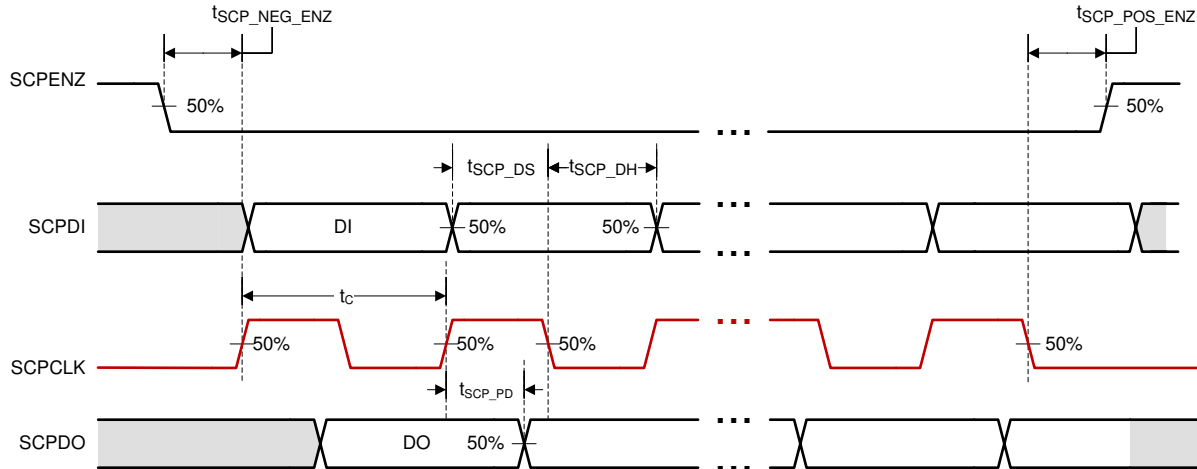

图 6-2. SCP Timing Requirements
- (5) Low-speed interface is LPSDR and adheres to the Electrical Characteristics and AC/DC Operating Conditions table in JEDEC Standard No. 209B, "Low-Power Double Data Rate (LPDDR)" JESD209B. Tester conditions for V_{IH} and V_{IL} .
- (6) PWRDNZ input pin resets the SCP and disables the LVDS receivers. PWRDNZ input pin overrides SCPENZ input pin and tristates the SCPDO output pin.
- (7) The SCP clock is a gated clock. Duty cycle must be 50% \pm 10%. SCP parameter is related to the frequency of DCLK.
- (8) See 图 6-2.